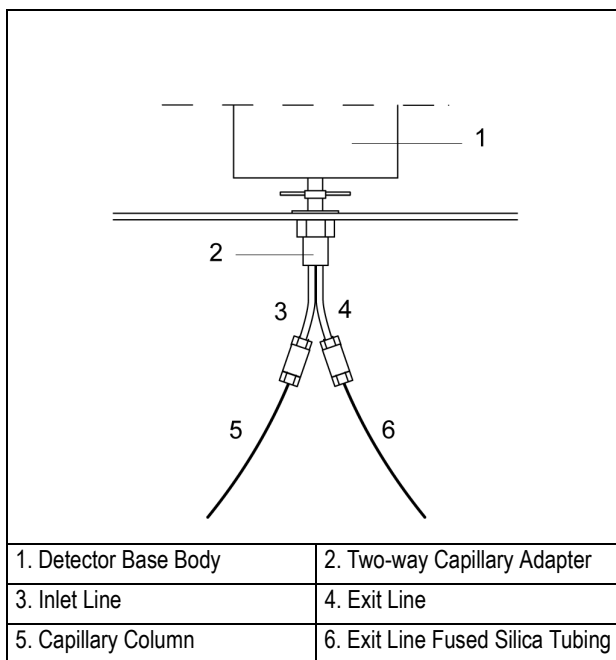

Figure D-9. Capillary Column and Exit Line Connections
1. Connect capillary column and exit line to the PID as described in *Chapter 14* (on page 237) of the *TRACE GC 2000 Operating Manual*. The result of the operation is shown in Figure D-9.